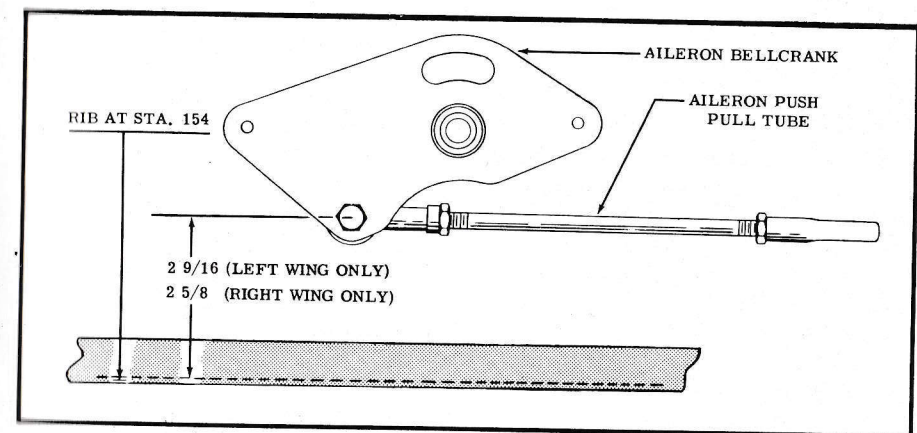

Figure 5-5. Aileron Bellcrank Adjustment
- (1) Place control wheels in neutral position and place a neutral bar across the top of both wheels, using tape or a clamp to secure them. Install chain over sprockets, leaving approximately nine links inboard of the chain guard on each side of the turnbuckle.
- (2) String cables back through system.
- (3) The ailerons are restricted in travel by a feature built into the bellcranks. Stops in the bellcrank allow a total travel of 34°. In rigging the ailerons, it is important that the bellcranks are neutralized. Connect the cables and adjust bellcrank to a position as shown in figure 5-5. Cable tension should be approximately 30 pounds with the control wheels full-forward.